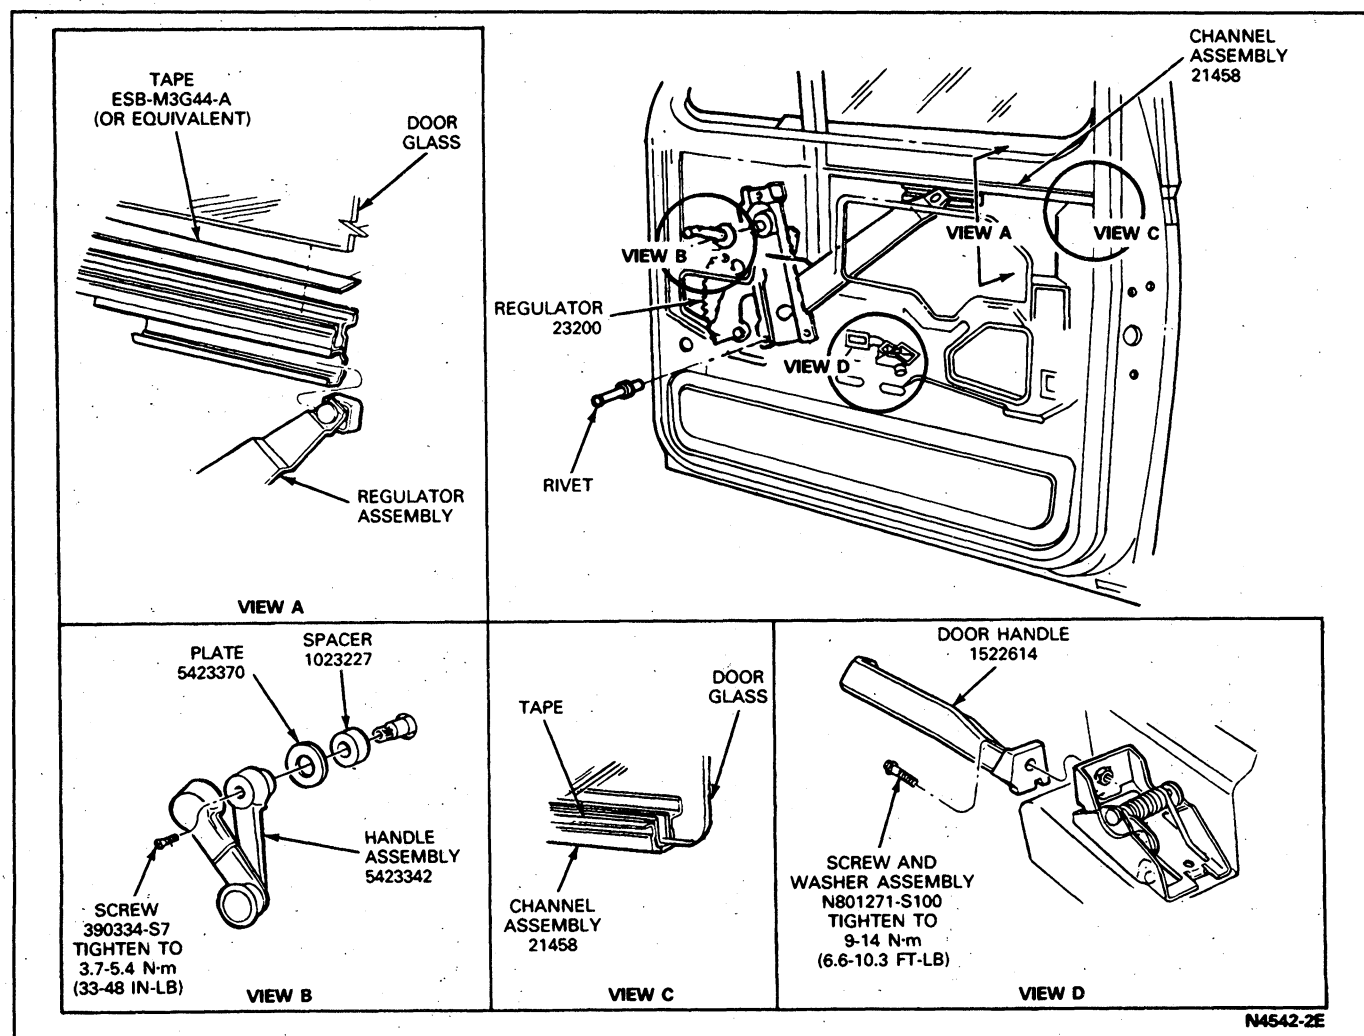

FIG. 5 Window Regulator—Removal and Replacement—F-150—F-350, F-Super Duty and Bronco Shown—E-150—E-350 Similar
2. Position the glass and channel assembly into the door, inserting the regulator arm roller into the slot of the glass channel (Fig. 5, View A).
using a 6.35mm (1/4-inch) drill and remove rivet. Be careful not to damage sheet metal holes during drilling (Fig. 5).
1. Position regulator in door and insert arm into glass bracket channel (Fig. 5).